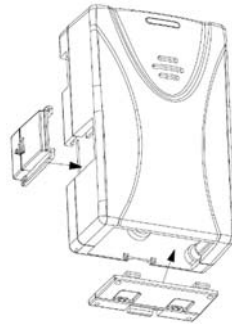

Fig. 1 – Battery compartment and sensor plate
1. Open the battery cover and install the battery (see Fig. 1).